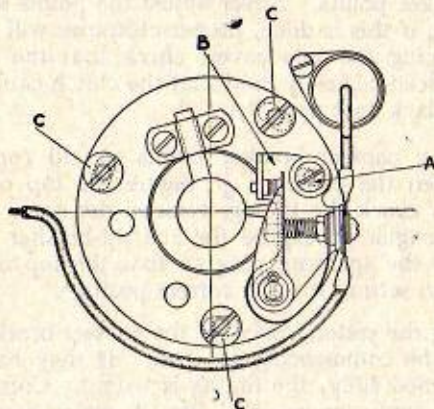

Fig. 3.—Contact-breaker assembly.
**Contact Breaker Adjustment.** The contact breaker assembly, Fig. 3 (page 10), and condenser are secured to the left-hand side of the crankcase, underneath the detachable cover. The contact breaker points may require adjustments at intervals, although this should not be done unless it is definitely necessary. Turn the crankshaft until the moving point is in its highest position. With a feeler gauge, check the clearance between the two points, which should be .015".
If it is either more or less than this figure, slacken the screw "A" shown on Fig. 3, and move the bracket "B" in the required direction to obtain the correct clearance.
After setting the piston, examine the contact-breaker points, which should just be commencing to open. If they have not done so, or have opened fully, the timing is wrong. Correct as follows:—Slacken the three screws "C" Fig. 3, which secure the complete contact breaker assembly to the crankcase, and move the assembly to the left or right according to the adjustment required.